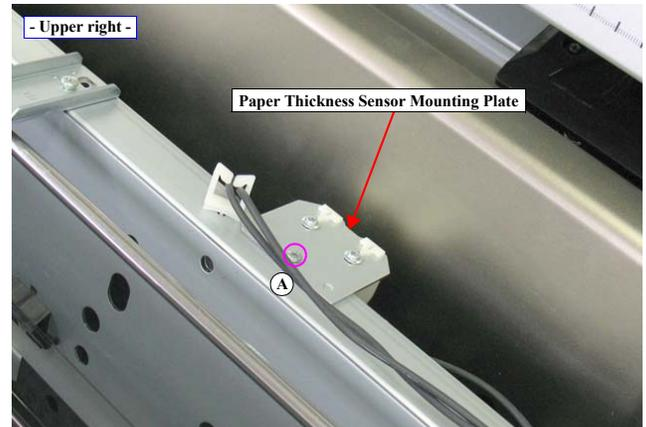

Figure 4-82. Removing the Paper Thickness Sensor Mounting Plate
9. Remove the screw that secures the Paper Thickness Sensor Mounting Plate, and remove the Paper Thickness Sensor Mounting Plate. See Figure 4-82.
6. Remove the two screws that secure the Driven Roller Release Motor, and remove the Driven Roller Release Motor. See Figure 4-82.